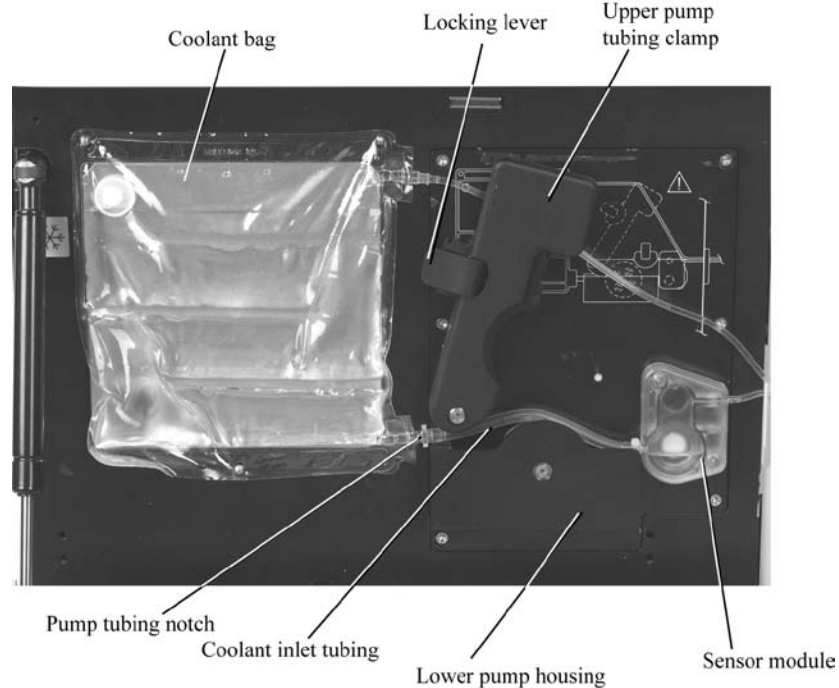

Figure 2-8. Coolant System with Pump Mechanism Open
5). Route the Coolant Bag inlet tubing through the pump mechanism by pulling out the locking lever located on the upper pump tubing clamp and lifting the tubing clamp up. Lay the pump tubing of the Coolant Bag across the center of the pump mechanism (*Figure 2-8*).
6). When the Coolant Bag is mounted correctly on the chill plate, the Coolant Bag inlet tubing and sensor module are aligned with the pump mechanism (*Figure 2-8*).
7). Place the Coolant Bag pump tubing (inlet tubing) of the Coolant Bag under the upper pump tubing clamp and across the rotor of the pump mechanism (*Figure 2-8*).